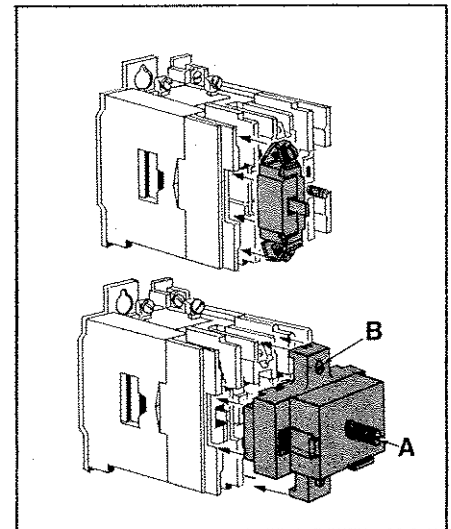

Figure 2.
2. Unscrew center post "A" Figure 2.
3. Loosen two screws "B" Figure 2 and remove top portion of relay.